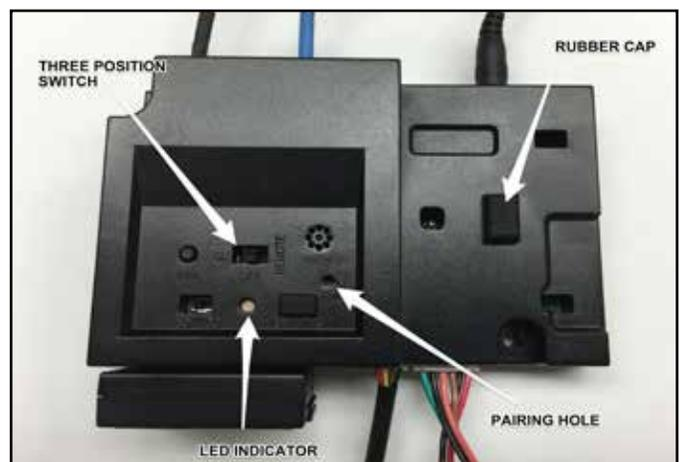

Figure 1. IFT-ECM
2. Locate the IFT-ECM in the control cavity of the appliance and move the three-position switch to the OFF position. See Figure 1.
3. Remove protective rubber cap from connector on the top of the IFT-ECM. See Figure 1.